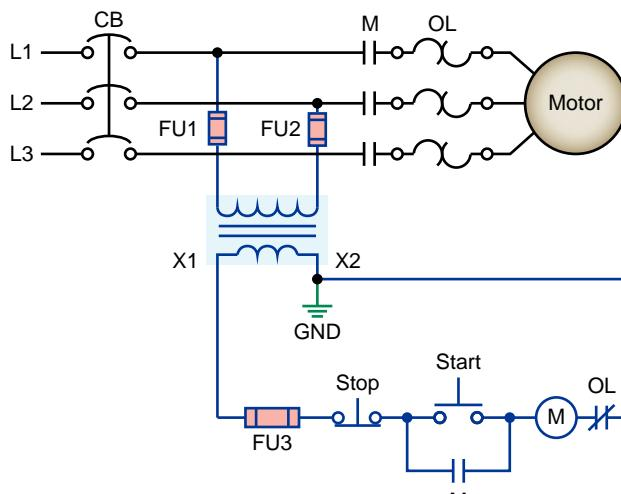

Figure 3-39 Circuit for review question 5.
5. For the motor control circuit of Figure 3-39, assume the circuit is *incorrectly* grounded at X1 instead of